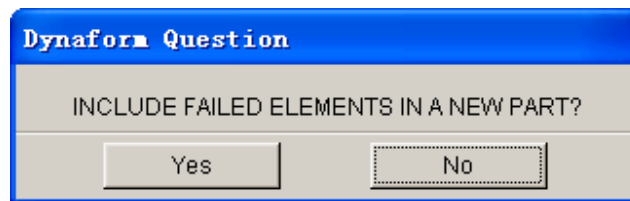

Figure 5.6.4 DYNAFORM Question Window
2. If there are failed elements, a DYNAFORM QUESTION window appears. See Figure 5.6.4.